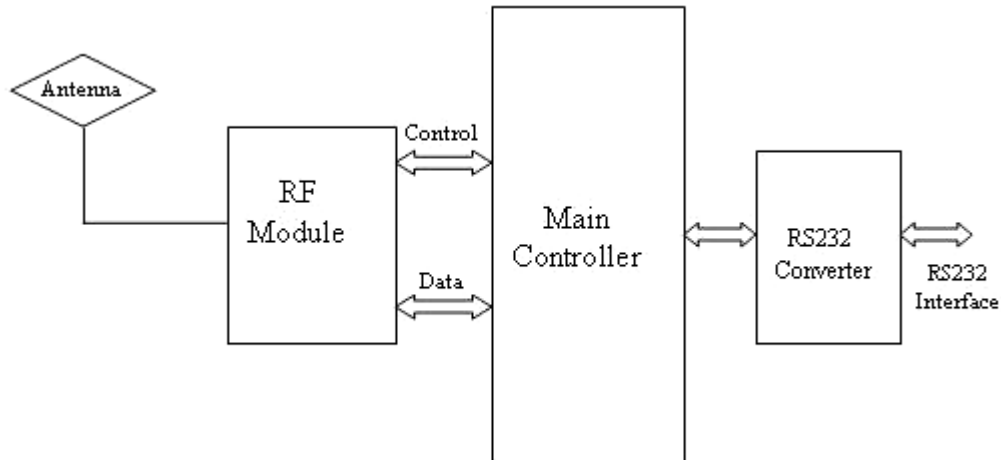

Figure 1: RDSRF-232-T24FZ-LR-SMA/CA Block Diagram
- 1) Change the RDSRF-232-T24FZ-LR-SMA/CA to configuration mode by changing the switch position as shown in figure1.